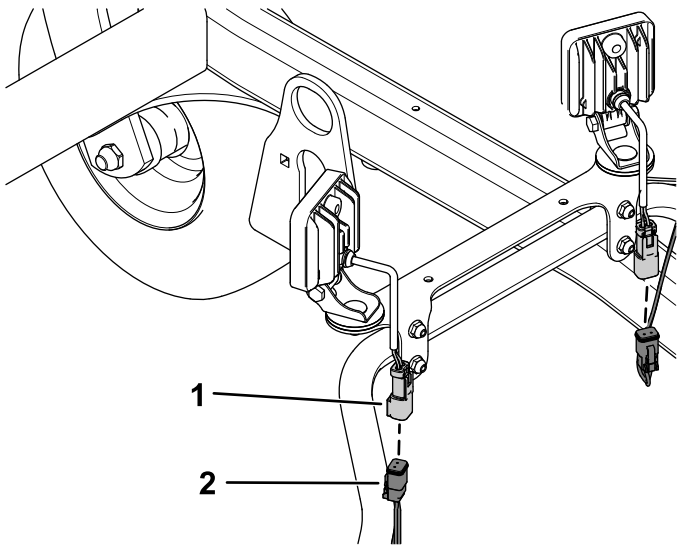

Figure 3
1. Plug the 2 connectors at the front of the machine into the LED lights (Figure 3).